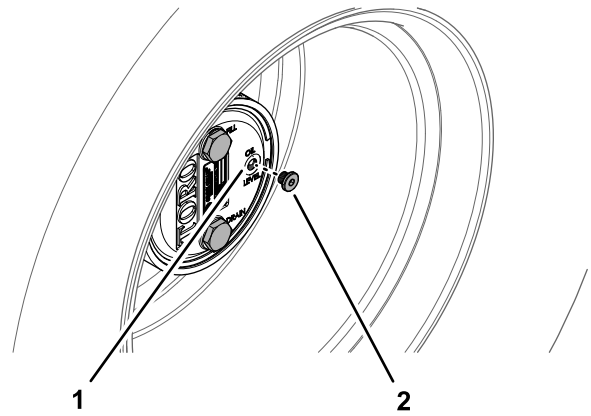

**Figure 73**
1. Park the machine on level surface and position the wheel so that the fill plug is at the 12 o'clock position, the check plug is at 3 o'clock position, and the drain plug is at the 6 o'clock position (Figure 73).
2. Remove the check plug at the 3 o'clock position (Figure 73).
1. Park the machine on level surface, position the wheel so that the fill plug is at the 12 o'clock position, the check plug is at 3 o'clock position, and the drain plug is at the 6 o'clock position; refer to Figure 73 in Checking the Planetary Gear-Drive Lubricant (page 71).